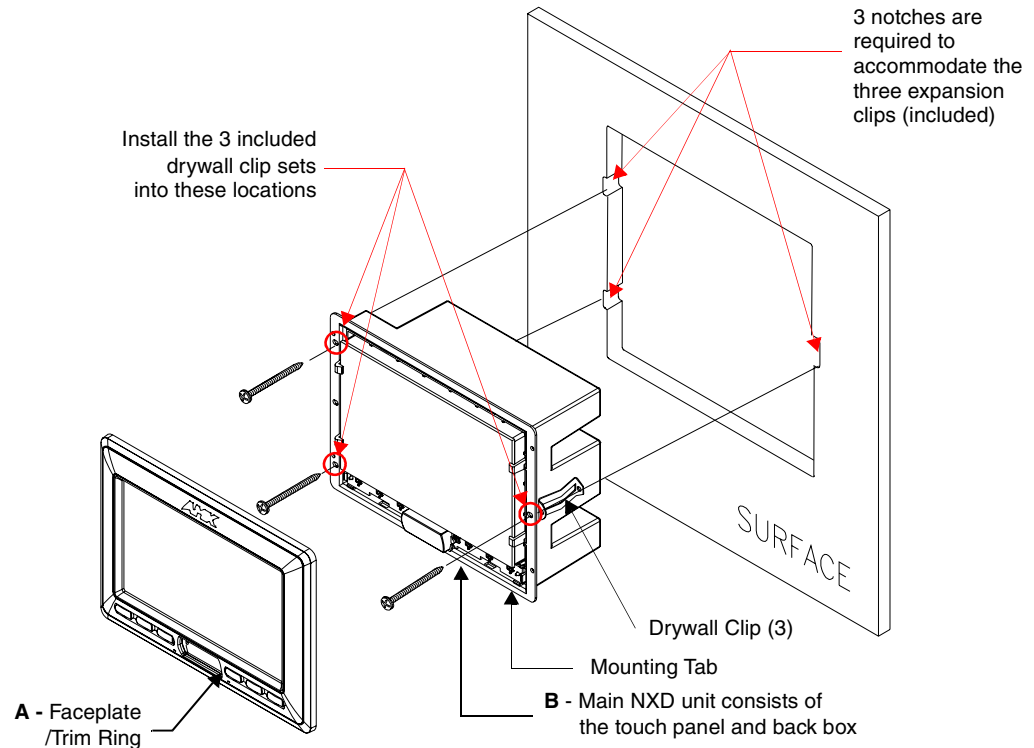

FIG. 39 Wall Mount panel (NXD) installation configuration for drywall surfaces
3. Remove the Faceplate/bezel (**A** in FIG. 39) from the main NXD unit (**B** in FIG. 39) by gripping the faceplate and pulling with gentle outward force.
8. Install the three sets of drywall screws and expansion clips into the three oval notch locations along both sides of the main unit (B in FIG. 39).
11. Place the Faceplate/Trim Ring assembly (A in FIG. 39) back onto the main NXD unit (B in FIG. 39). *Make sure to align the Microphone, Light, and PIR Motion sensor locations to their respective openings on the front faceplate/bezel.*